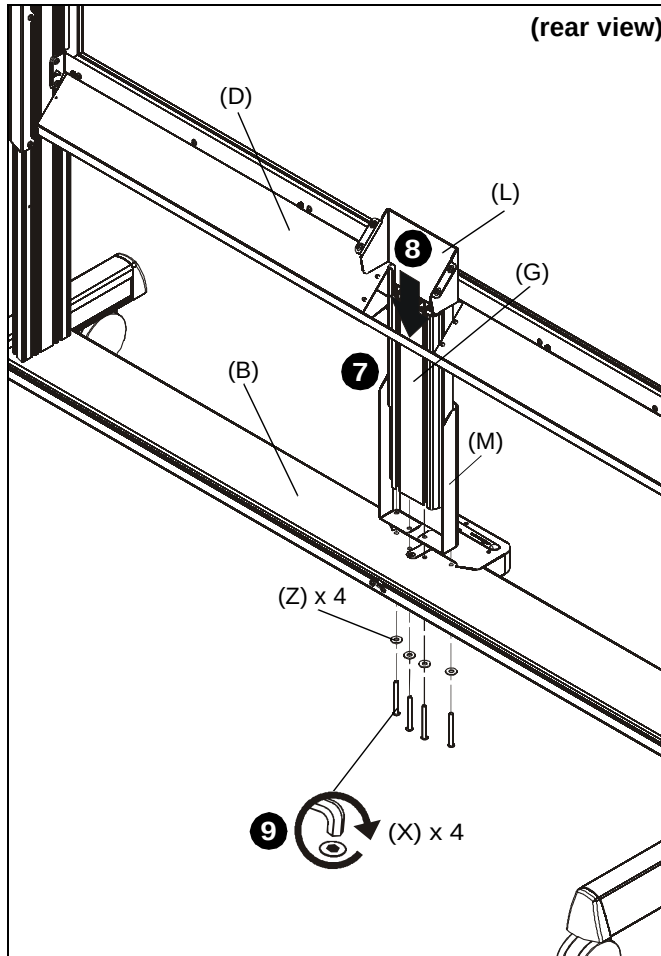

Figure 4
7. Slide height-adjust beam (G) inside top telescoping shroud (L) in preparation for installation to cart. (See Figure 4)
8. Install top telescoping shroud (L) with height-adjust beam (G) into opening of screen tray and cross assembly (D). (See Figure 4)
9. Use four 1/4-20 x 2 1/2" button head cap screws (X) and four 1/4" washers (Z) to secure height-adjust beam (G) and base telescoping shroud (M) to cross bar assembly (B). (See Figure 4)